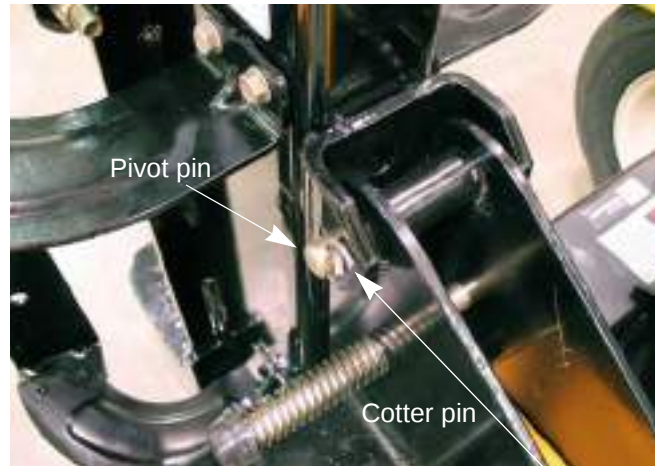

Figure 7.4
11. Remove the cotter pin from the pivot pin. See Figure 7.4.